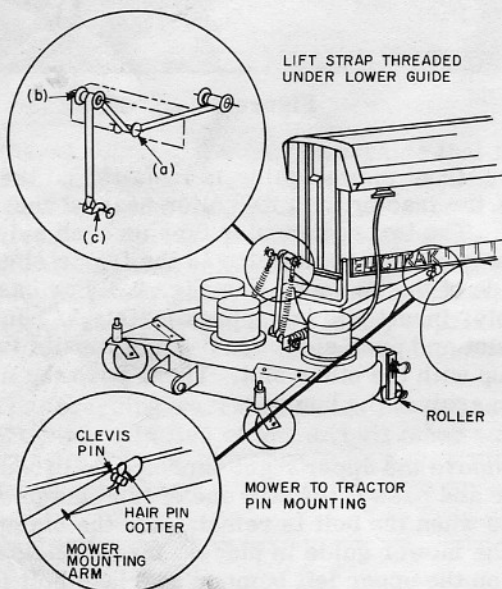

Figure 4
To attach the mower, refer to Figure 4 and take the following steps:
2. Secure the mounting arms to the tractor frame with the clevis pins and hair pin cotters supplied with the tractor. (See insert Fig. 4.) Installation is eased by pushing the clevis pin back in flush to the frame side, then lining up the hole in the mower arm and pushing the pin through the arm.
(b) as shown in the insert Fig. 4. Attach it to the mower lift clevis pin (c).